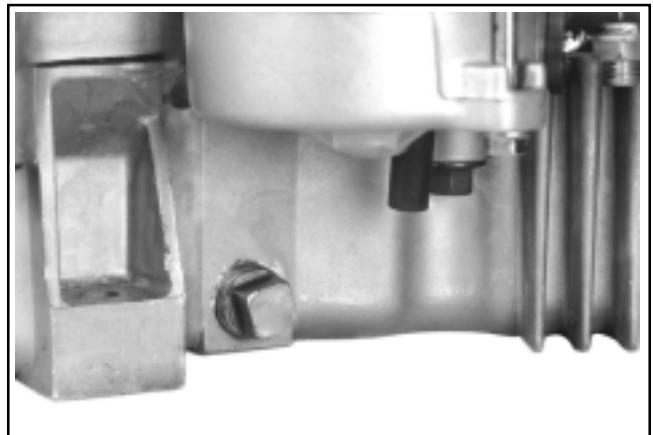

Figure 11-105. Install Oil Drain Plug(s).
1. Install the oil drain plug(s). See Figure 11-105. Torque the plug(s) to **13.6 N·m (120 in. lb.)**.